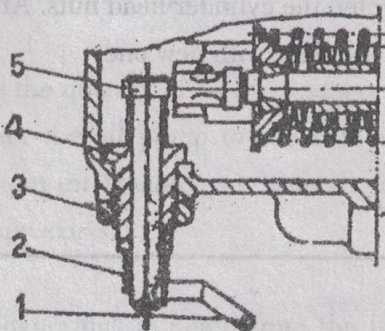

Fig. 17 1. Decompression lever
2. Turn the eccentric bushing through an angle to effect the adjustment. Clockwise turning is made if the decompression is too little, anti-clockwise turning is necessary if the decompression is too much (Fig. 17).